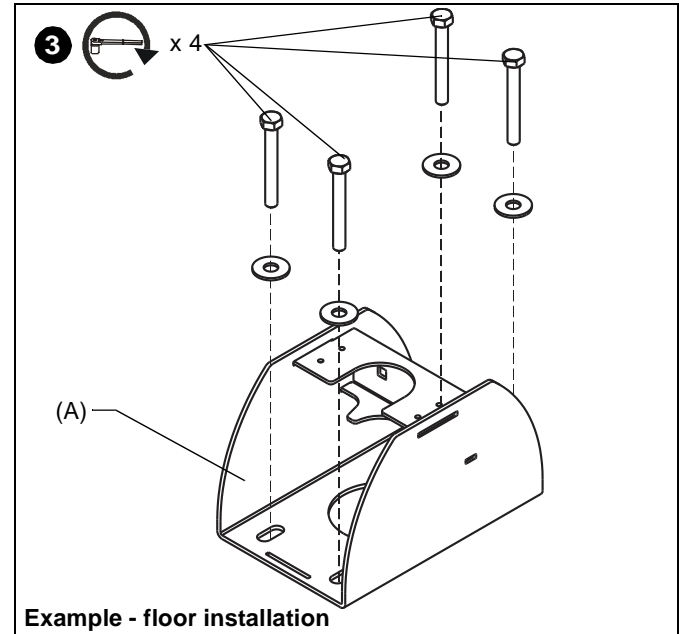
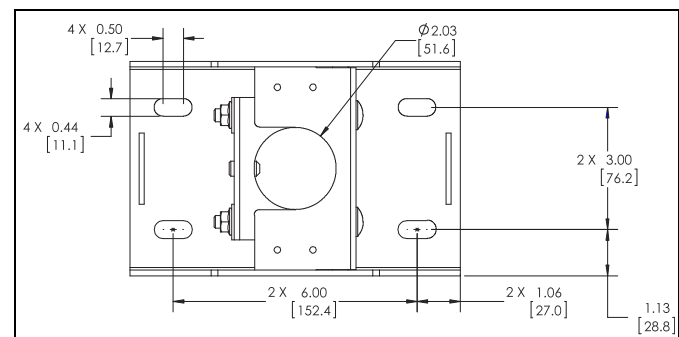

Figure 2
Figure 3
- Install and tighten four 5/16" x 2-3/4" (minimum) bolts and washers (not included) through base (A), into wood stud cross bracing. (See Figure 2) [(See Figure 3) for dimensions details.]
- Using base (A) as a template, mark locations of four pilot holes on ceiling or floor.
- Use four UX10 anchors or AF8 anchors (not provided) to secure base (A) to solid concrete ceiling or floor. See dimensions details. (See Figure 3)